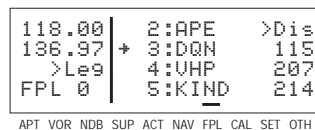

Figure 4-44
5. If you now turn back to the FPL 0 page, you will see that the active waypoint is now preceded by an arrow only, instead of the **↓** symbol (figure 4-44). This is because there is no "from" waypoint in the flight plan.